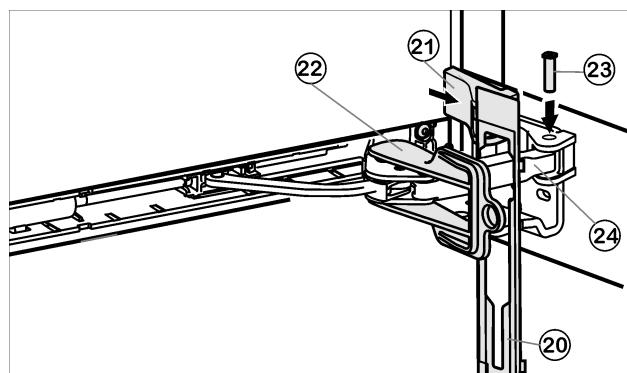

Fig. 15
- Hook panel Fig. 15 (20) into the damper bracket such that the detent hooks are pointing forwards and the front side is facing the appliance.
- Pull damper bracket Fig. 15 (24) towards bearing bracket and insert bolt Fig. 15 (23) from above such that the square is resting in the recess.
- Position cover Fig. 15 (21) and snap in.
- Remove locking device Fig. 15 (22) by twisting it.
- Snap panel Fig. 15 (20) into place on the door.